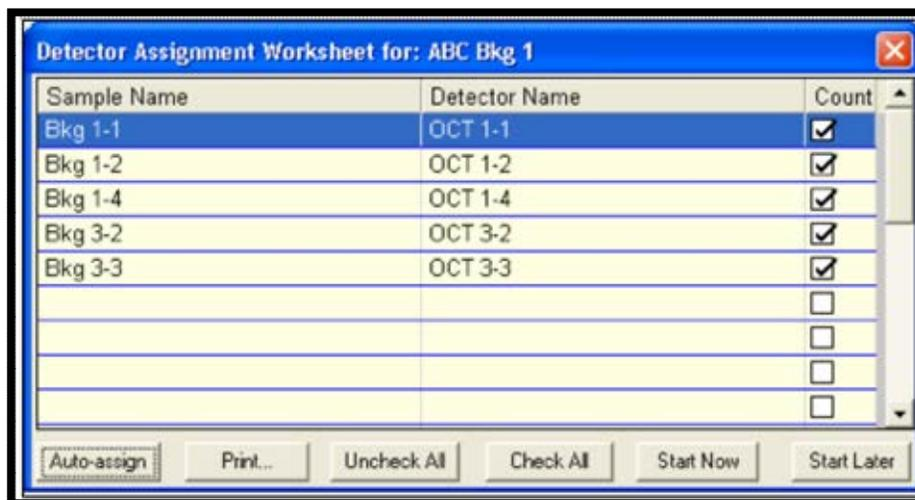

Figure 196. Detector Assignment Worksheet
- 9) When the wizard closes, the Detector Assignment Worksheet will open (Figure 196). This is the tool for assigning a detector to each background and starting data acquisition. It is discussed in detail in Section 11.2. For this tutorial, it will be assumed there are enough alpha chambers available to count the 5 samples. Assign detectors automatically by clicking the **Auto-assign** button, then click **Start Now** to start the background measurement.